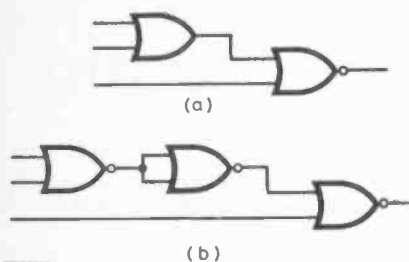

Fig. 4.17. Two ways of building a circuit to perform the same function
4.17(a), we can see that it involves both OR and NOR gates, and would require two i.c.s to build it in TTL. However, by applying one of the Boolean Identities above, we can rearrange it to make use of only NOR gates, and hence reduce the circuit to a single i.c., as shown in Fig. 4.17(b).